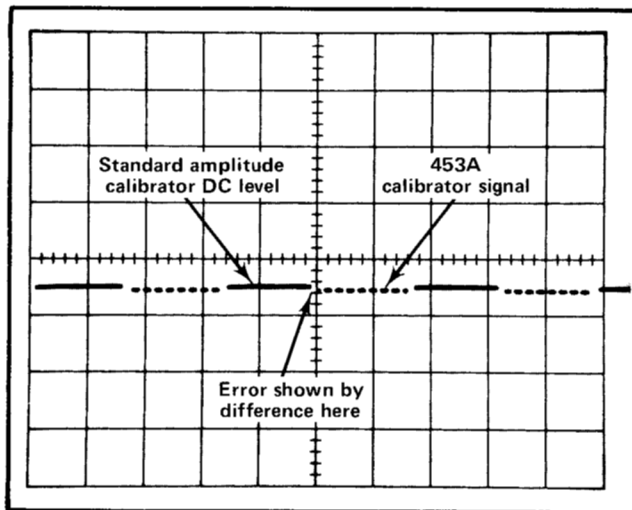

Fig. 5-2. Typical CRT display when checking voltage output of calibrator.
- g. CHECK—Difference between the standard amplitude calibrator output level and the 453A calibrator output is 0.1 division or less (one volt output, $\pm 1\%$; see Fig. 5-2).
k. CHECK—Difference between the standard amplitude calibrator output level and the 453A calibrator output is 0.1 division or less (0.1 volt output, $\pm 1\%$; see Fig. 5-2).